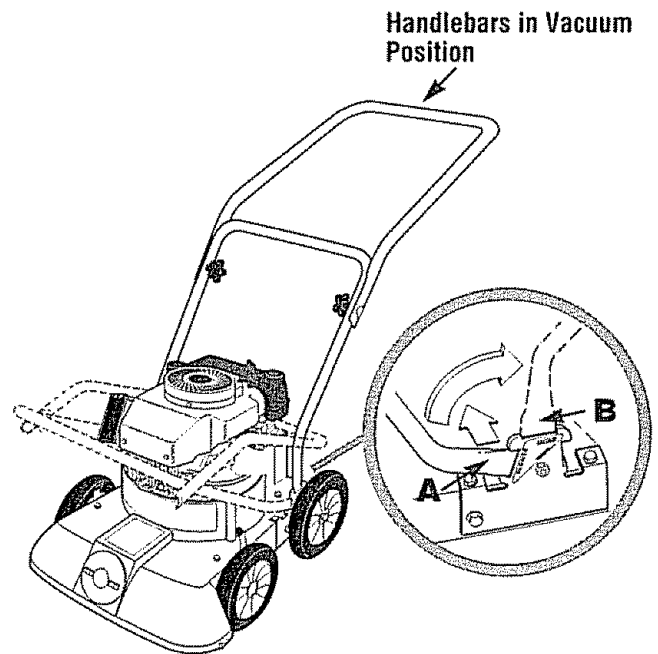

Figure 11: Handlebar position for vacuuming.
2. Squeeze the handlebar end (A in Figure 11 inset with decal "Push in Here") toward the center of the machine to release end from the notch in the mounting bracket and swing the handlebars up over the machine toward the rear.
3. Position the handlebar ends in the "vacuum" notches of the brackets (B in Figure 11 inset).